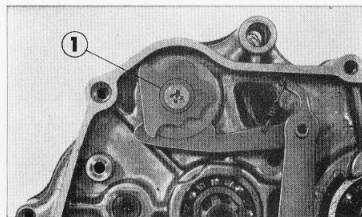

Figure 50. ① The screw should be fastened tightly
2. Apply screw locking agent to the stopper plate fixing screw lest the screw should loosen. (Fig. 50)